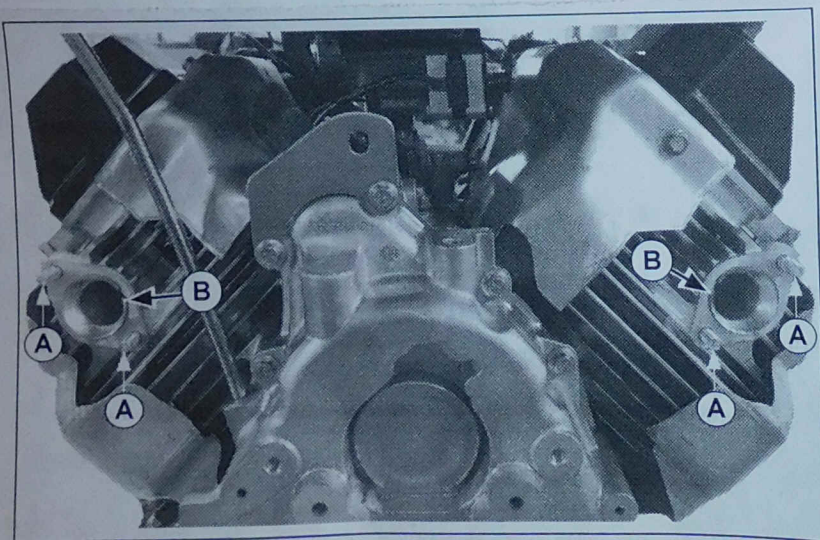

Figure 1. Exhaust Studs and Exhaust Port Liners Installed.
1. If the engine does not already have studs installed in the exhaust ports, install the new studs (A) from the kit into each cylinder head exhaust port with the identification mark facing out. See Figure 1.
2. If the engine does not already have exhaust port liners installed in the exhaust ports, insert one exhaust port liner (B) in each cylinder head exhaust port. See Figure 1.